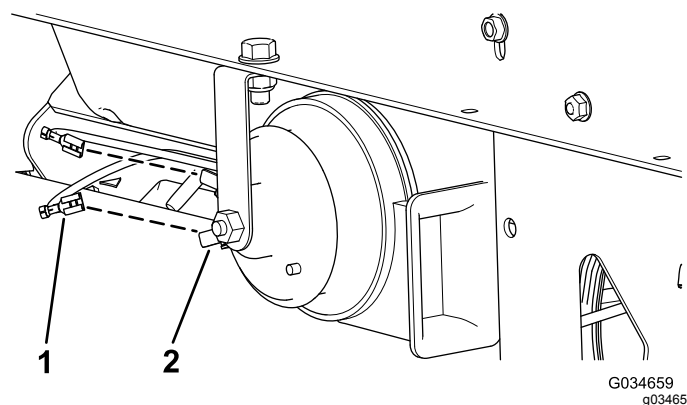

Figure 2
3. Plug the 2 female connectors from the main wire harness into the 2 male connectors on the 12 V horn (Figure 2).